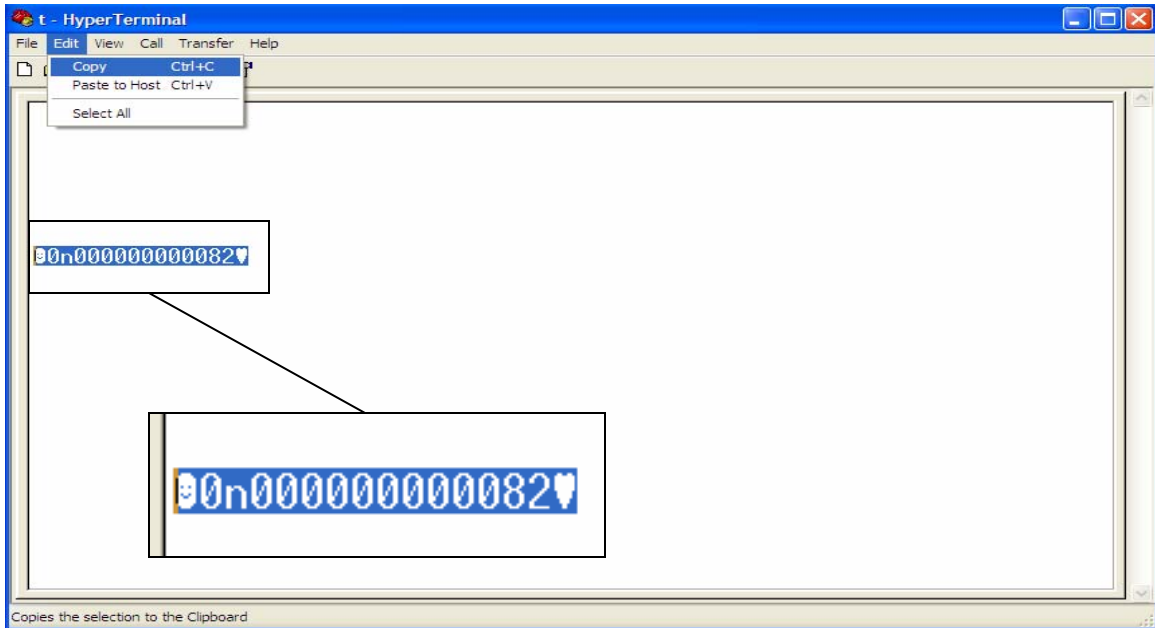

Fig. 5 Copy the Command
11. Type the command in HyperTerminal. To insert the start transmission character press ctrl+b (it should look like a darkened smiley face). Then type the command from Fig 4 for your address followed by the end transmission character, ctrl+c (dark heart). Just by typing the command you will not receive a response, you need to copy the whole command then go to Edit>Copy and then Edit> Paste to Host. This is shown in figures 5 and 6.